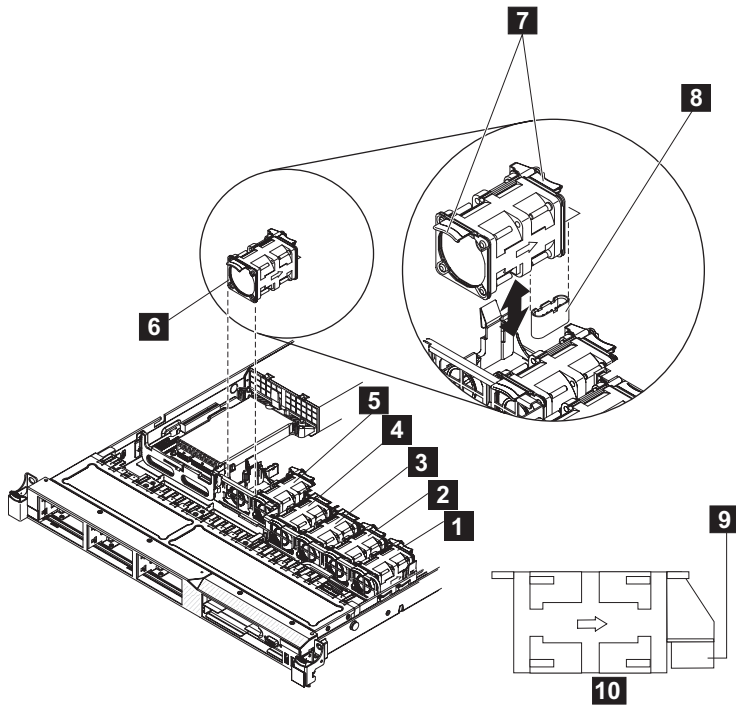

Figure 238. SAN Volume Controller 2145-CG8 or 2145-CF8 fan locations and connectors
- | Figure 238 on page 240 shows fan locations within the SAN Volume Controller 2145-CG8 or 2145-CF8 node.